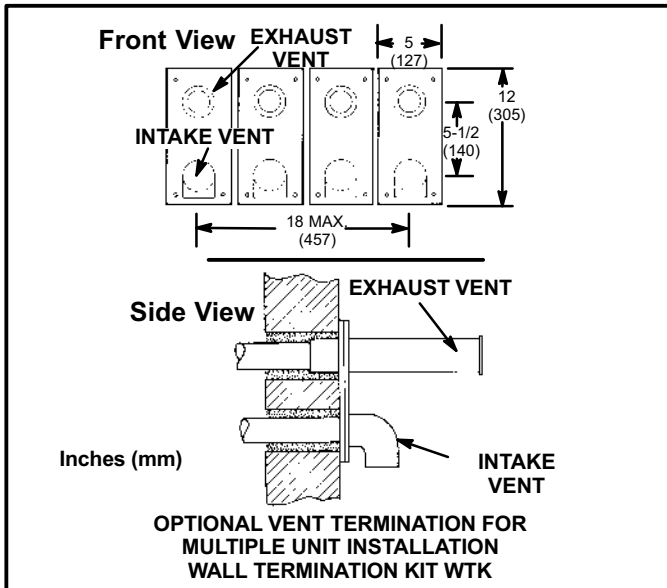

FIGURE 16
- 14 - Based on the recommendation of the manufacturer, a multiple furnace installation may use a group of up to four termination kits WTK assembled together horizontally, as shown in figure 16.